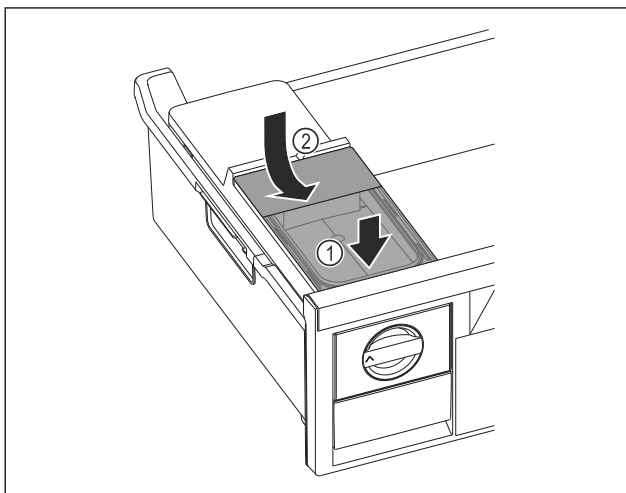

Fig. 73
- ▶ Position the water tank at the front. Fig. 73 (1)
- ▶ Lower the water tank at the rear. Fig. 73 (2)